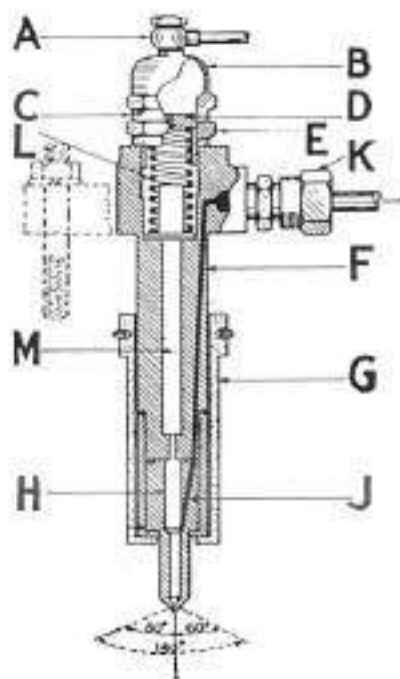

FIG. 30
1. Remove the fuel leak-off pipes A, Fig. 30, by disconnecting the dome unions and the vertical pipe union. After removing the fuel leak-off pipes replace the banjo bolts and copper washers on each injector cap.
2. Disconnect the high pressure fuel lines from the injector unions K, Fig. 30, and slacken the unions at the injector pump.